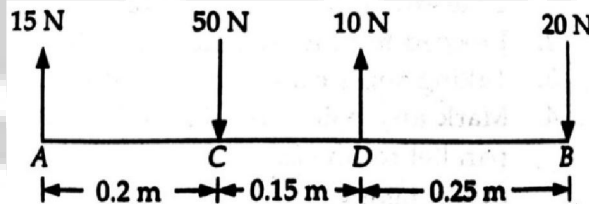

Fig. 4
- b) A rigid bar is subjected to a system of parallel forces as shown in Fig 4. Reduce this system to a single force and moment system at A. (5)